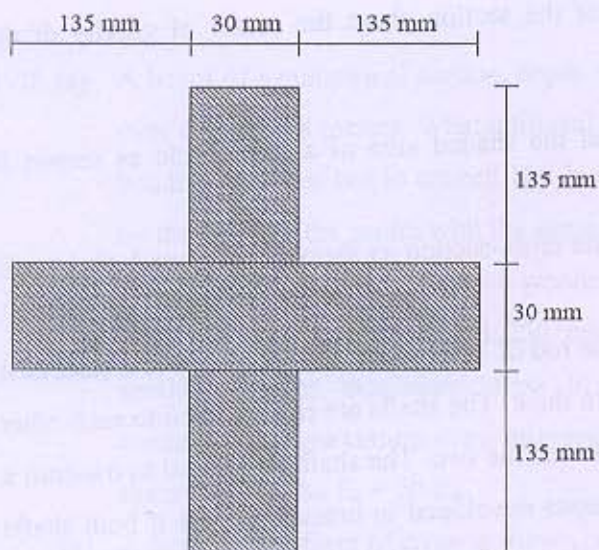

Figure 1
4. What is section modulus of a circular section of diameter (D)? [01]
- (c)** A beam in the form of cross is shown in **Figure 1** is subjected to shear force of 100 kN. Sketch the shear stress distribution diagram. [06]